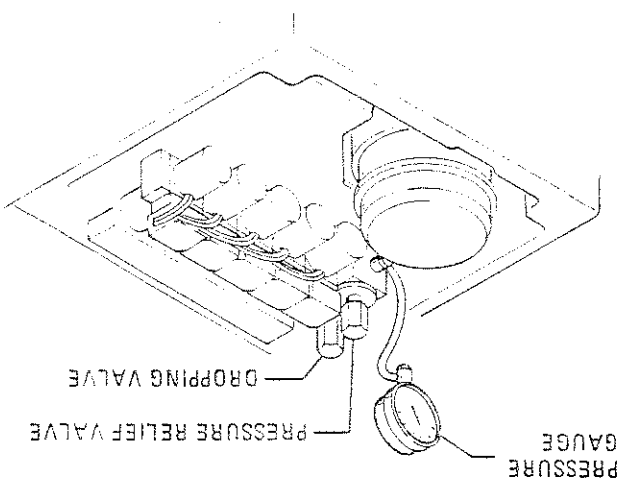

Figure 1-27.
1. Remove the blind cap and attach a hydraulic pressure gauge to the main oil galley using 6mm plumbing bolt. See figure 1-27.
1. Attach a hydraulic pressure gauge to the main oil gallery using 6mm plumbing bolt. See figure 1-27.
1. Attach the pressure gauge onto the main oil gallery pictured in figure 1-27.